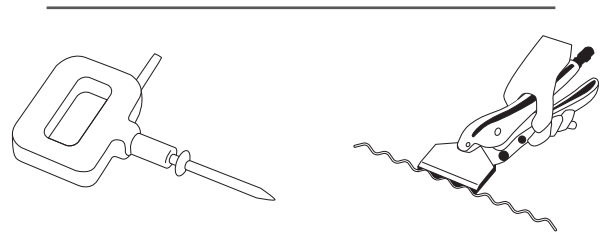

Figure 505.4
- After welding, the best way to break off the pulling rod is by twisting. Wiggling from side by side may cause hole in the panel. Pins can be snipped or twisted off. Wiggle wire is removed by rocking up and down. We recommend using a Vise-Grip® model 8R. Please see Figure 505.4.